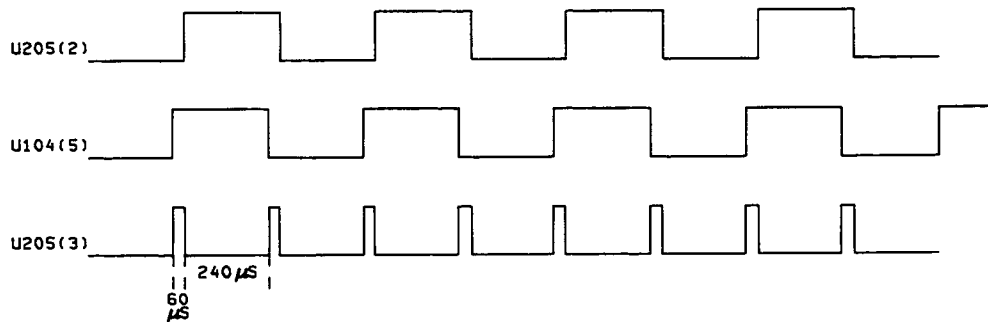

Figure A2-7 CLK Generation
A2-47 CLK is produced by adding a delay to one of the signal paths to the Exclusive OR gate U205A (see Figure A2-7). By running at twice the other clock rates CLK enables the Program Counter on A1/A101 to provide enough addresses (256) in 125 μ s to perform the A1/A101 software routine. CLK also enables all the Bit Slice Processor instruction to be carried out over one period of CLK because the narrow pulses disable the Bit Slices for only 60ns.